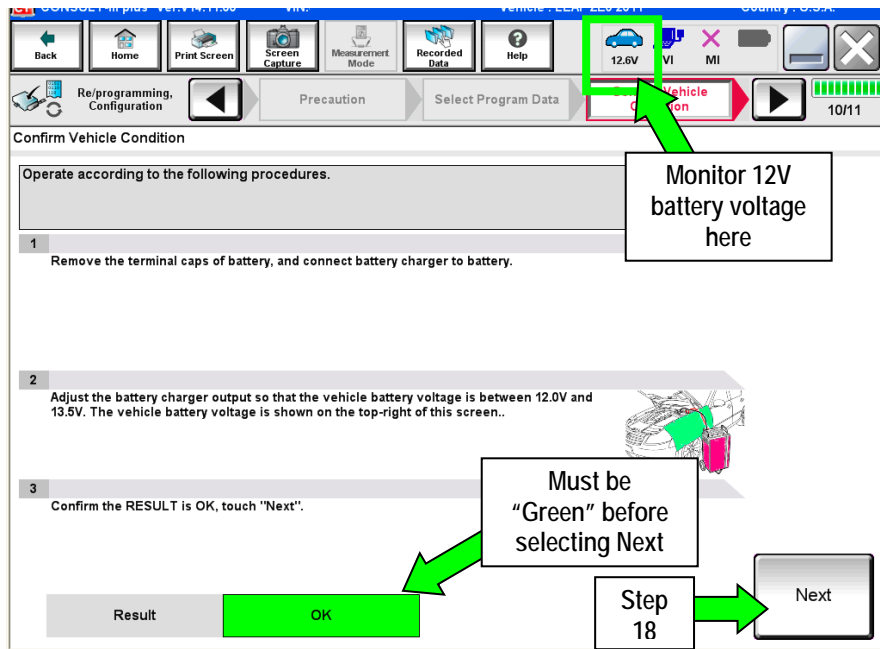

Figure 13
- If no Saved Data List is stored, Figure 13 on the next page will be displayed.